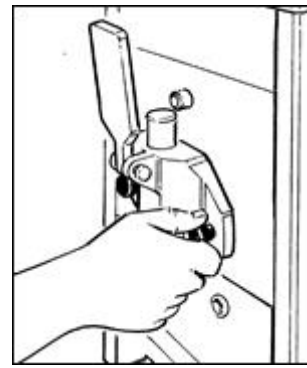
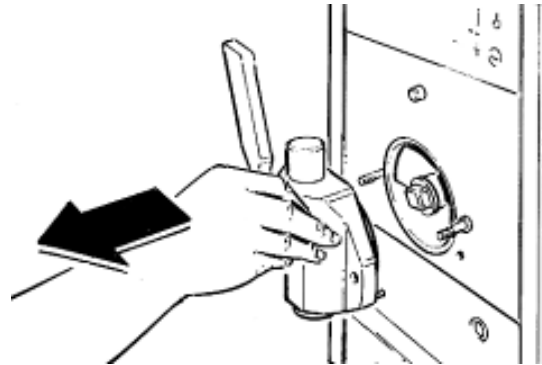

Fig. 46
Fig. 47
- Unscrew the security knobs and remove the front flange (Fig. 46 and Fig. 47).